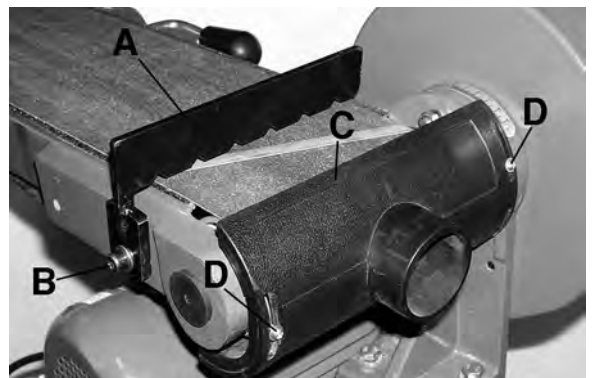

Figure 19
3. Remove the backstop (A) Fig.19 by undoing the cap screw (B) and then remove the belt dust chute (C) by undoing the 2 pan hd screws (D).